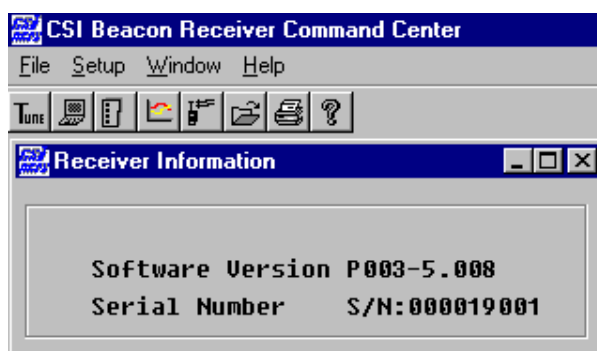

Figure 89 IALA Beacon Receiver Information
3. Check that there is contact with the IALA Beacon receiver by selecting **File|Receiver Info** in the **Beacon Receiver Command** window. If contact a dialogue box with the IALA Beacon receiver serial number and software version will appear, see Figure 89. If no contact, close the **Beacon Receiver Command** window and start again. It may be difficult to make contact with the receiver. If no contact after several times, contact Seatex.